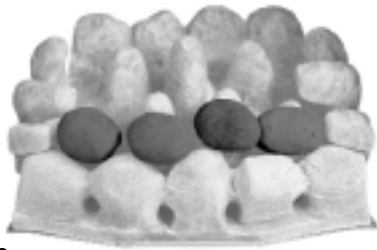

Fig. 32
5. Pick out the smallest two pebbles and lay to one side, lay the first row of four loose pebbles on top of the front coal. Ensure the back of the pebbles are resting on the fuel bed and there are even gaps all round (Fig. 32).